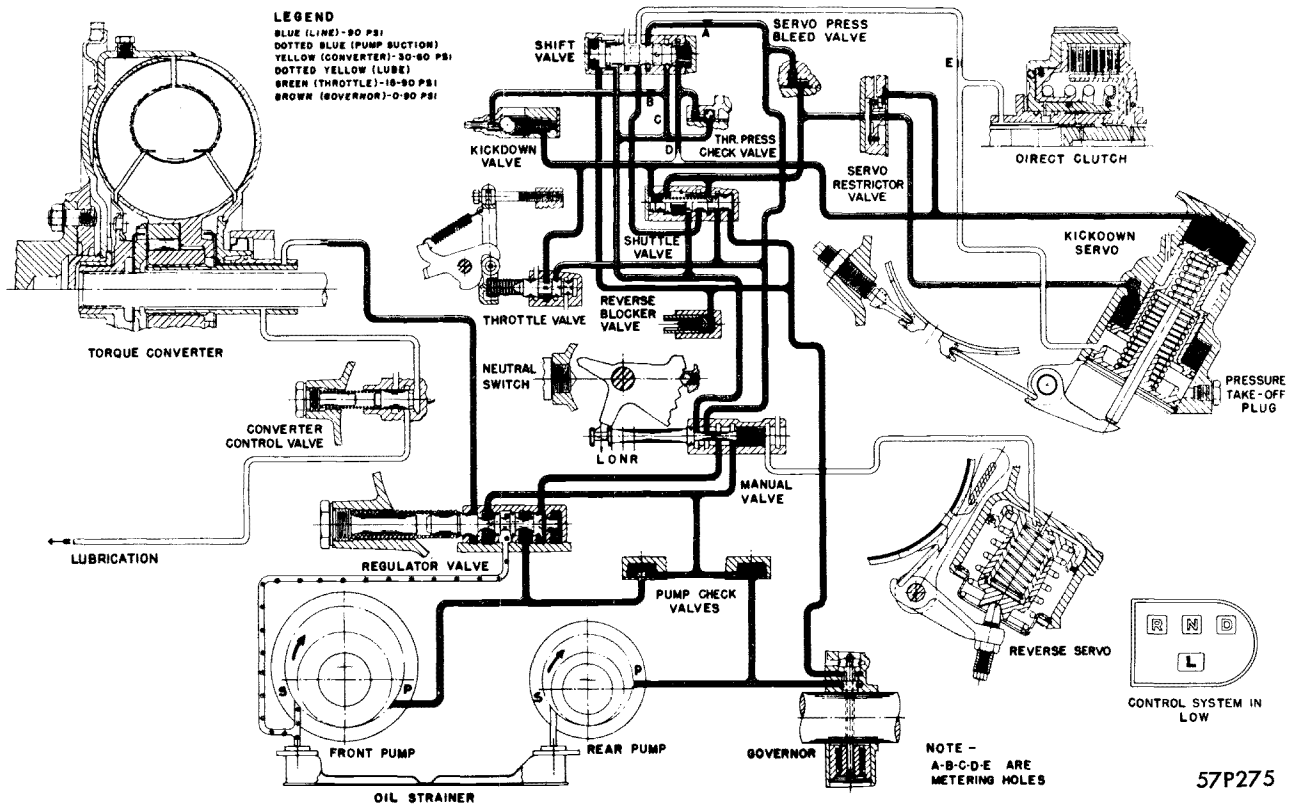

Figure 47—PowerFlite Oil Flow Diagram—(Low)
LOW—When the panel control is placed in the low (L) position, the manual valve is located so that line pressure (90 p.s.i.) is directed to the low range side of the shift valve, and to the on area of the kickdown piston, thus applying the kickdown band. The combined oil pressures in their respective shift valve chambers result in a greater combined force than the maximum force of governor pressure. This prevents the governor pressure from moving the shift valve, thus the transmission remains in the downshifted position at all times when the panel control is in low (L), as shown in Figure 47.
In addition to the main valves mentioned in the hydraulic operation of the PowerFlite Transmission, line restrictions and line restrictor valves are incorporated in the transmission hydraulic system to smooth out the operation of the unit. See Figure 47, for location of the restrictors.